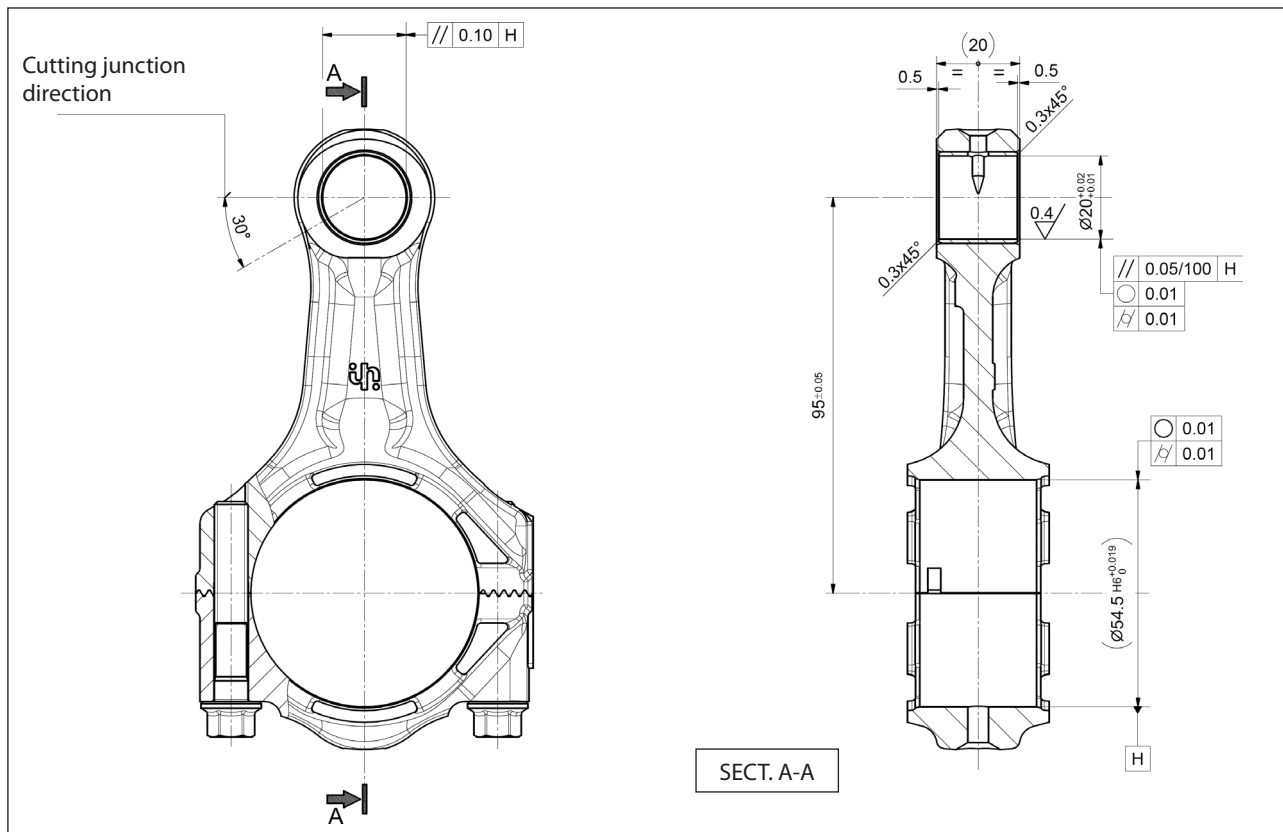

Fig. 48
- Then perform mechanical processing. The dimensions and tolerances shown in Fig. 48 must be respected.
Then perform mechanical processing. The dimensions and tolerances shown in Fig. 48 must be respected.